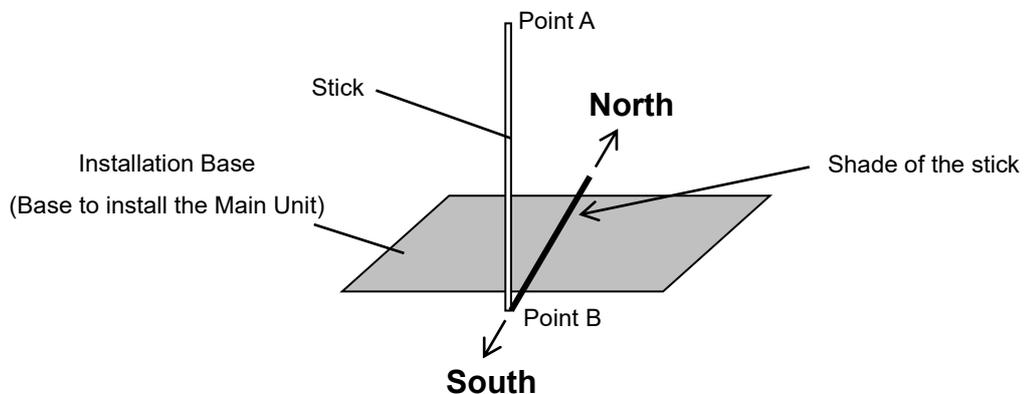

Figure 5-3-1. How to check the True North
RSB-01 Main Unit is installed in true south side and shadow band is installed in the true north side (See Figure 5-3-1). Use the South/North arrow indicated on the top part of the RSB-01 Main Unit (indicated as "→ N")
- E) Install the Main Unit so that the marked line and the "reference line for positioning (Figure 5-3-1)" on the Main Unit are in parallel position.